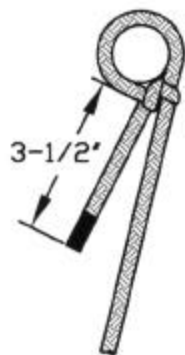

FIG. 4 - REMOVE SLACK FROM KNOT, ROTATE, AND CINCH AROUND DOWEL
4. Remove the slack, rotate the bowline, and cinch the knot around the dowel for a snug fit, adjusting the knot so that the short end of the rope is approximately 3-1/2" long. (See Figure 4)